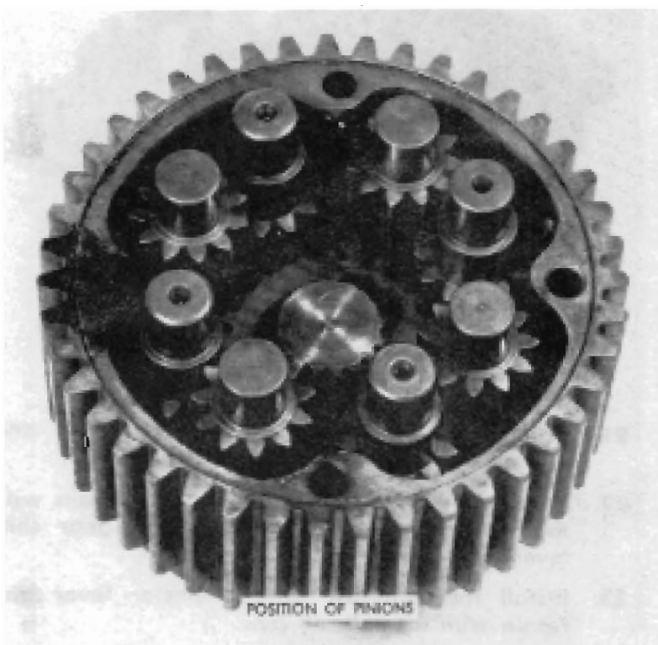

FIGURE 1
5. Note position of the eight (8) pinions. Adjacent pinions are installed in opposite directions, which make the position of the diagonally opposite pinions the same. See Figure 1.
2. Install one of the axle and gear assemblies in the differential case and install the eight (8) pinions, as shown in Figure 1. Properly installed each axle gear will mesh with four pinions.